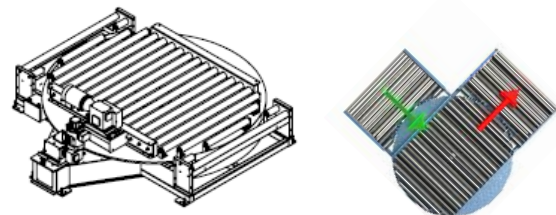

Figure 4
10. [5.5] The Figure 4, below, represents a similar case as one used in the lab classes to illustrate the application of induction motors to actuate the two rotation movements of a turntable: (1) the orientation of the table, (2) the rotation of the rollers. Given the specificity of this type of application for electric motors, answer the following questions.
- b) Based on the data available on Figure 4, calculate the static power and the load acceleration power required by this load for the orientation movement (1).
- c) Verify if the 0,55 kW motor, from the Table 1, below, run by a VFD at 70 Hz, can be used to drive the table orientation movement (1). Consider that a gearbox is used to convert the motor speed at 70Hz to the required table rotation speed.